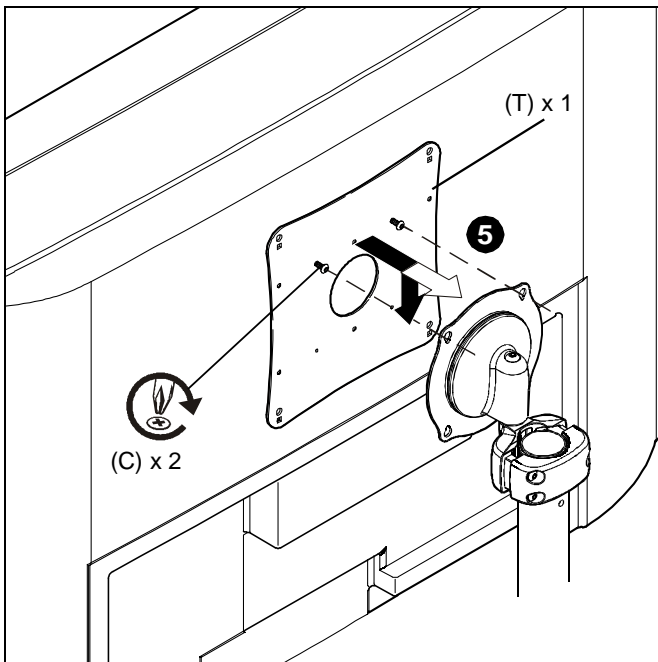

Figure 9
5. Start two Phillips pan head screws (C) into top mounting holes (100 x 100) in interface bracket (T). (See Figure 9)
6. Align two screws in interface bracket (T) with upper mounting holes in mounting plate and lower display until screws are seated in lower area of teardrop mounting holes. (See Figure 9)